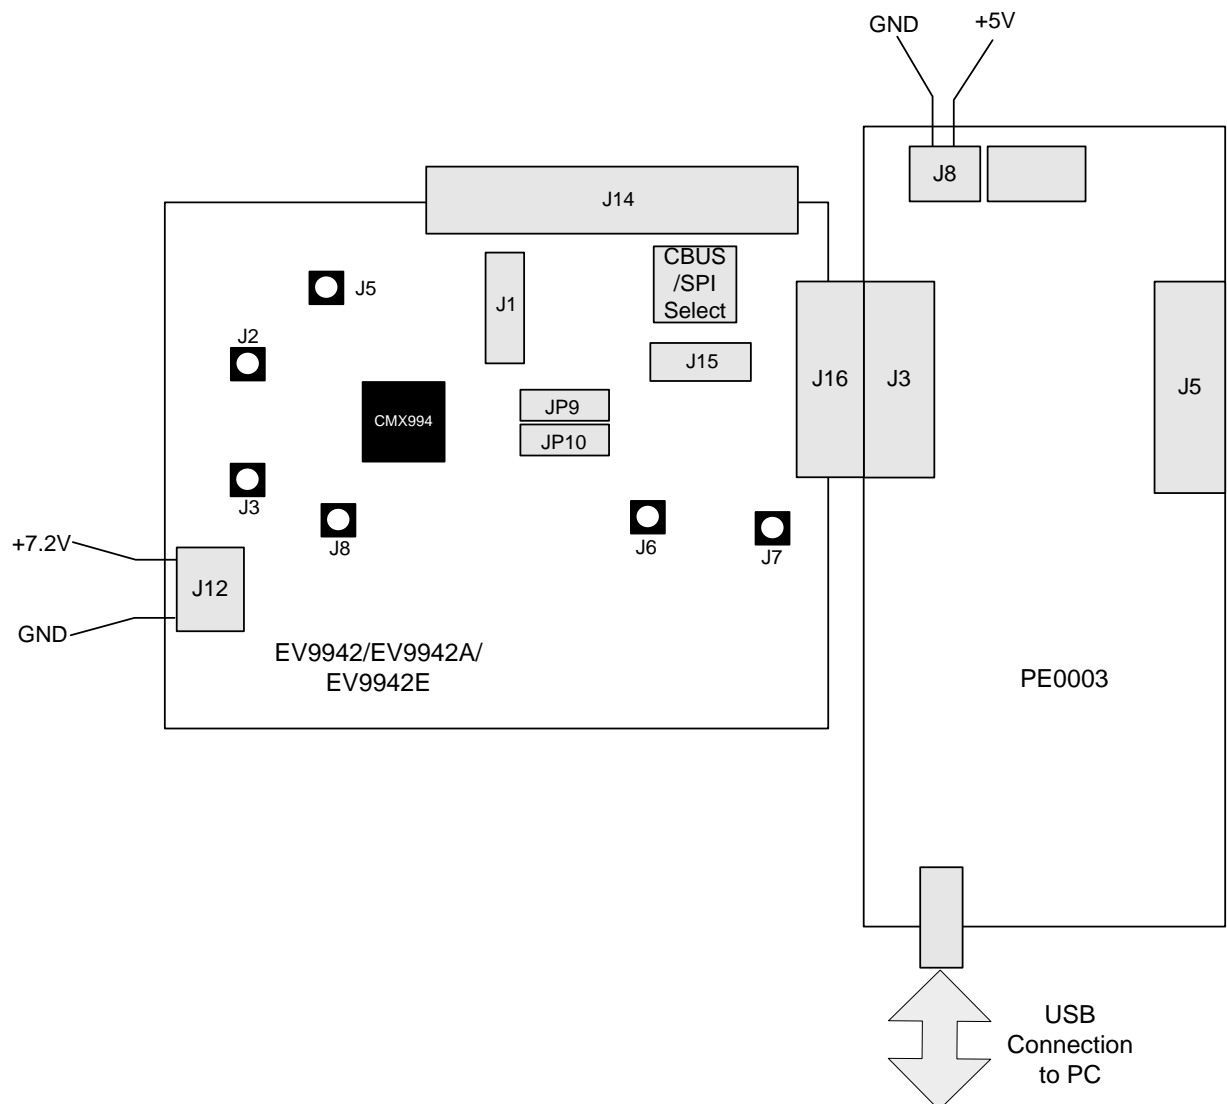

Figure 3 EV9942/EV9942A/EV9942E Connection to PC Using PE0003
2. Connect a controller to C-BUS interface J16 (PE0003 can be used – see Figure 3. Note: J3 or J5 can be used on PE0003, but ensure the correct C-BUS port is selected when programming data: Figure 3 shows PCB connected using port 2).